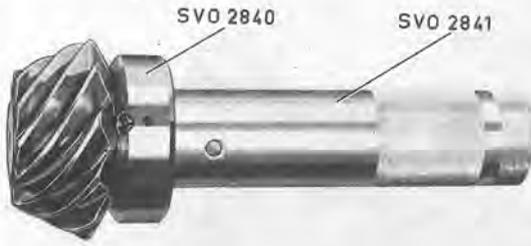
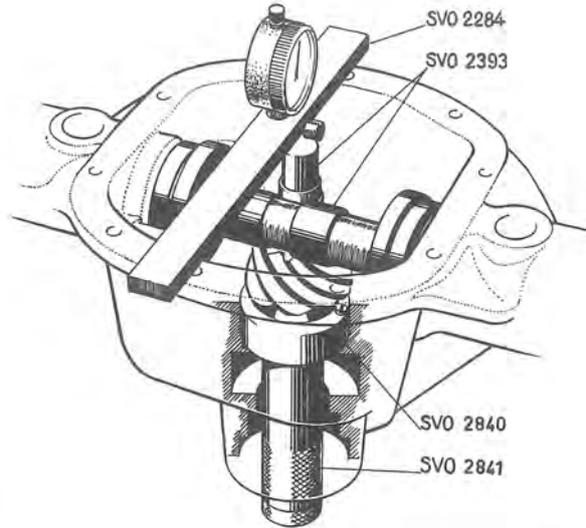
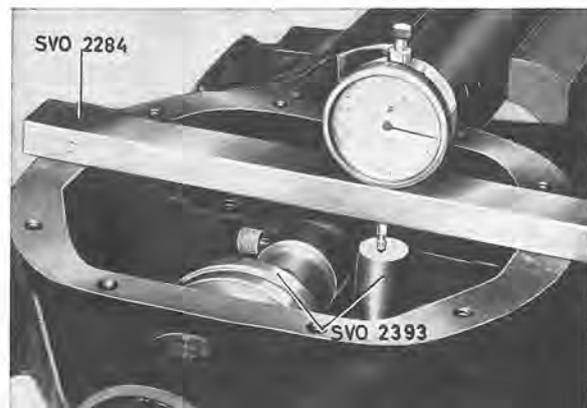
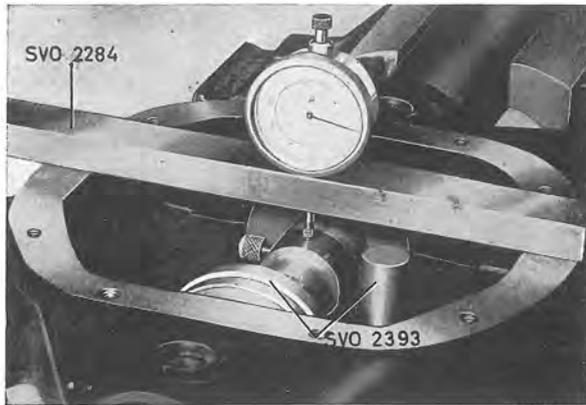

Fig. 4-150. Adjusting ring and tool for pinion location
Fig. 4-152. Locating the measuring tools
Fig. 4-153. Zero-zetting the indicator
Fig. 4-154. Measuring the pinion location
1. Clean the marking surface on the pinion with extremely fine emery cloth. Fit the adjusting ring SVO 2840 and tool SVO 2841 on the pinion, see Fig. 4-150. Place the pinion in the carrier, see Fig. 4-152, and secure the adjusting ring by screwing in the lock screw.
Place the pinion gauge on the ground surface of the pinion and the adjusting jig in the differential bearing positions as shown in Fig. 4-152. Place the indicator retainer on the drive pinion carrier and zero-set the gauge against the adjusting jig, see Fig. 4-153. Then move the indicator retainer over so that the indicator comes against the pinion gauge, see Fig. 4-154. If the pinion is marked 0, the adjusting jig and pinion gauge should be at the same height; if the pinion is marked —, the pinion gauge should be higher than the adjusting jig; and if it is marked +, the pinion gauge should be lower than the adjusting jig with correct setting. The setting is adjusted by turning the cam on the pinion until the gauge dial shows the correct value according to the marking. Then lock the